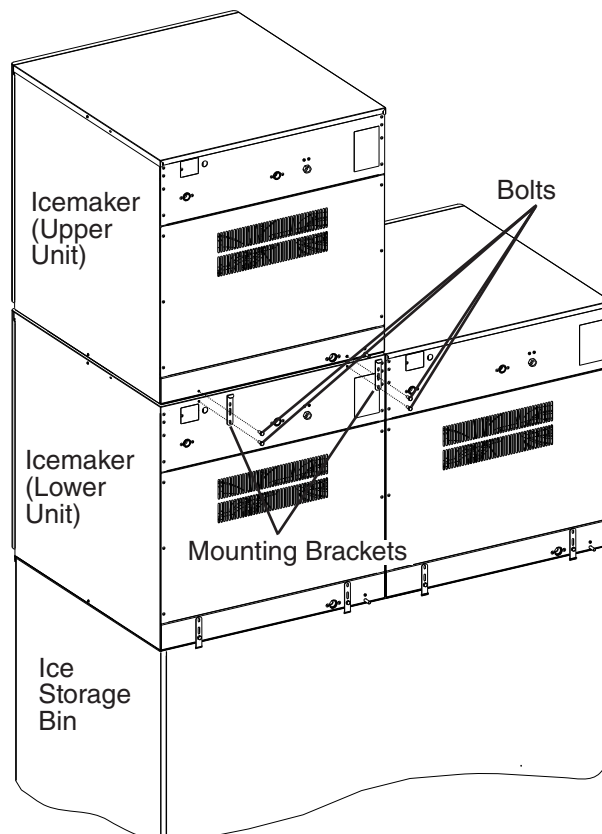

Fig. 5
- 6) Secure the upper unit to the lower unit using the 2 mounting brackets and the bolts provided. See Fig. 5.